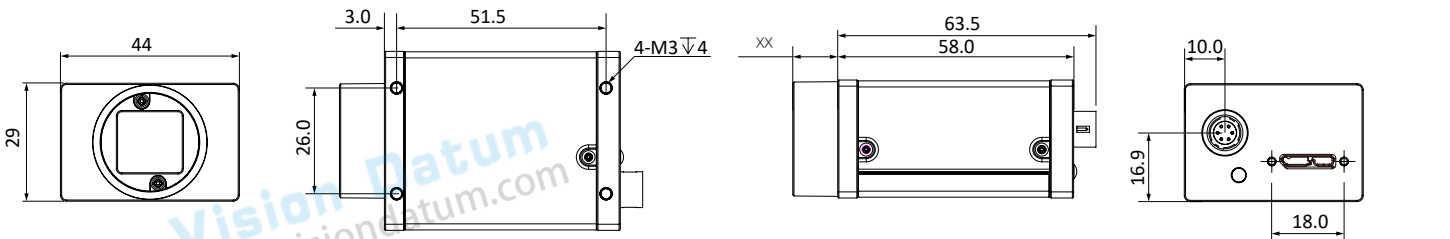

Fig. 1-5: Mechanical Dimensions (in mm) for USB3.0 Cameras with 29 \* 44 \* 58mm flat housing.
- USB3.0 Cameras with 29 \* 44 \* 58mm flat housing are as shown in Figure 1-5.